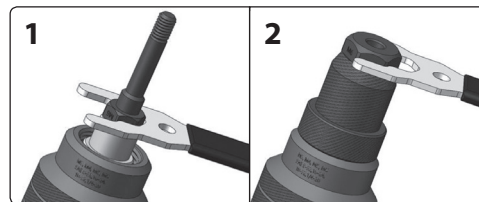

Fig. 3
- 1) Into the rivet adapter, screw in the rivet attachment with a nut, step 1 and 2 according to fig. 3.** The rivet attachment consists of two parts (threaded central axle and a top nut - see fig. 3). The size of the rivet adapter needs to be selected according to the size of the rivet nut. The size and length of the rivet nut must be selected to respect the diameter and depth of the pre-drilled hole and the material being joined, otherwise the material being joined will not be joined properly. The size of the rivet nut must correspond to the marking on the rivet attachment in the form of the marking, e.g. M5... Then tighten the rivet attachment using the supplied wrench (fig. 3, step 2).